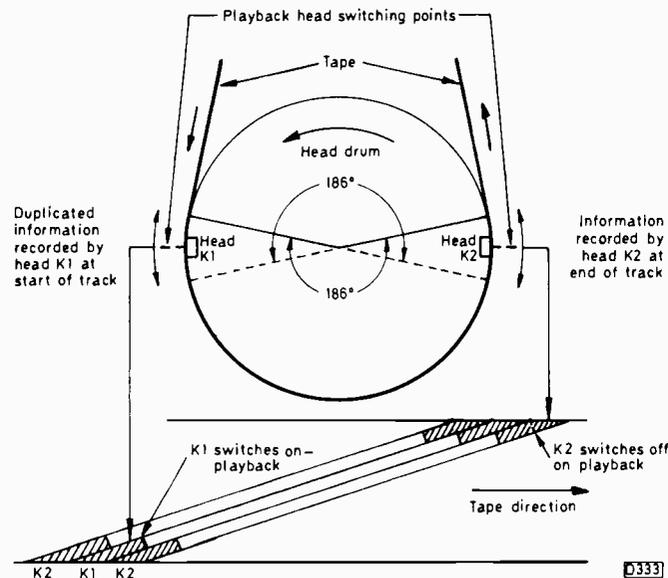
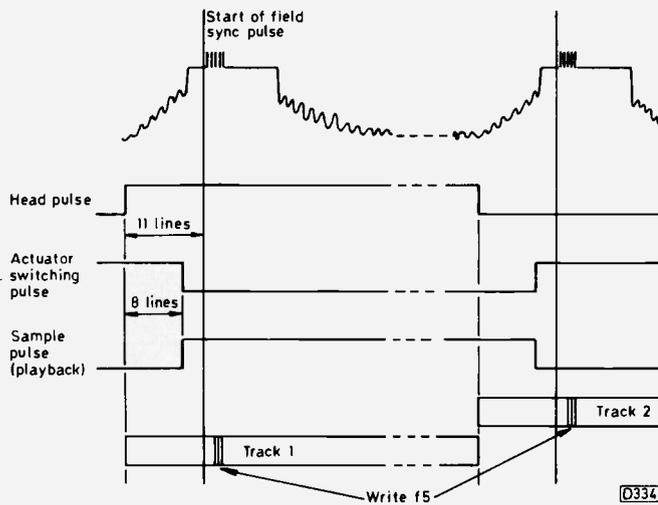

Fig. 16: Head switching.
Fig. 17: HP, AS and SP1/2 pulse timing relative to the field sync pulse.
Due to the use of a tape wrap of 186° (see Fig. 16), there's a small amount of duplication of the information recorded at the end and at the beginning of consecutive tracks. Head switching on playback - this is controlled by the HP (head pulse) signal - occurs about 11 lines before the playback sync pulse (see Fig. 17). This ensures that the playback field sync pulses occur at the beginning of each track.
The time relationship between these various pulses is shown in Figs. 17 and 18.
The head drum opto-pulse resets bistable D (ensuring that the shift register is set to count to 47) and also resets (or "empties") the shift register. The head tachogenerator produces 62.5 pulses per head/tape contact (125 pulses per revolution of the head). Thus after 47 tacho-pulses we are some substantial distance along the tape track. At this point an output pulse from the shift register triggers monostable A, starting a 2.3msec (± 1 msec) delay. The output from this monostable gets us to 11 lines or so before the field sync pulse (see Fig. 17). Its output then triggers bistable E to produce the head pulses.
The f5 write (WR), read (RE) and write plus read (WRE) pulses are initiated by the field sync during record. Now the HP pulse occurs some 11 lines before the field sync pulse (see Fig. 17), and WR occurs some 15 lines later. Thus WR occurs some four lines after the field sync pulse. The necessary delay is introduced by monostable F. The duration of the WR pulse (about 1.5 lines) is set by monostable G. The falling edge of this pulse starts monostable H, producing the RE pulse. The addition of these two gives us the WRE pulse.